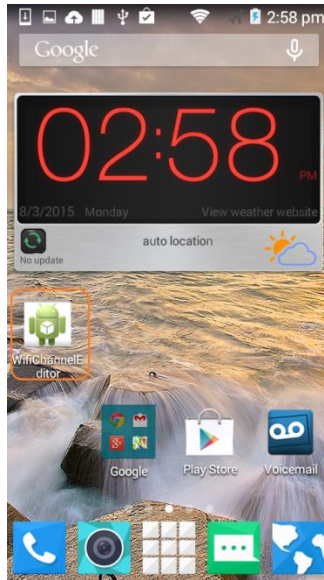

Figure 27 - After installing the app, you should see an icon on your Android's screen.
1. Click on the Wi-Fi Channel Editor icon to launch the app (see Figure 27).